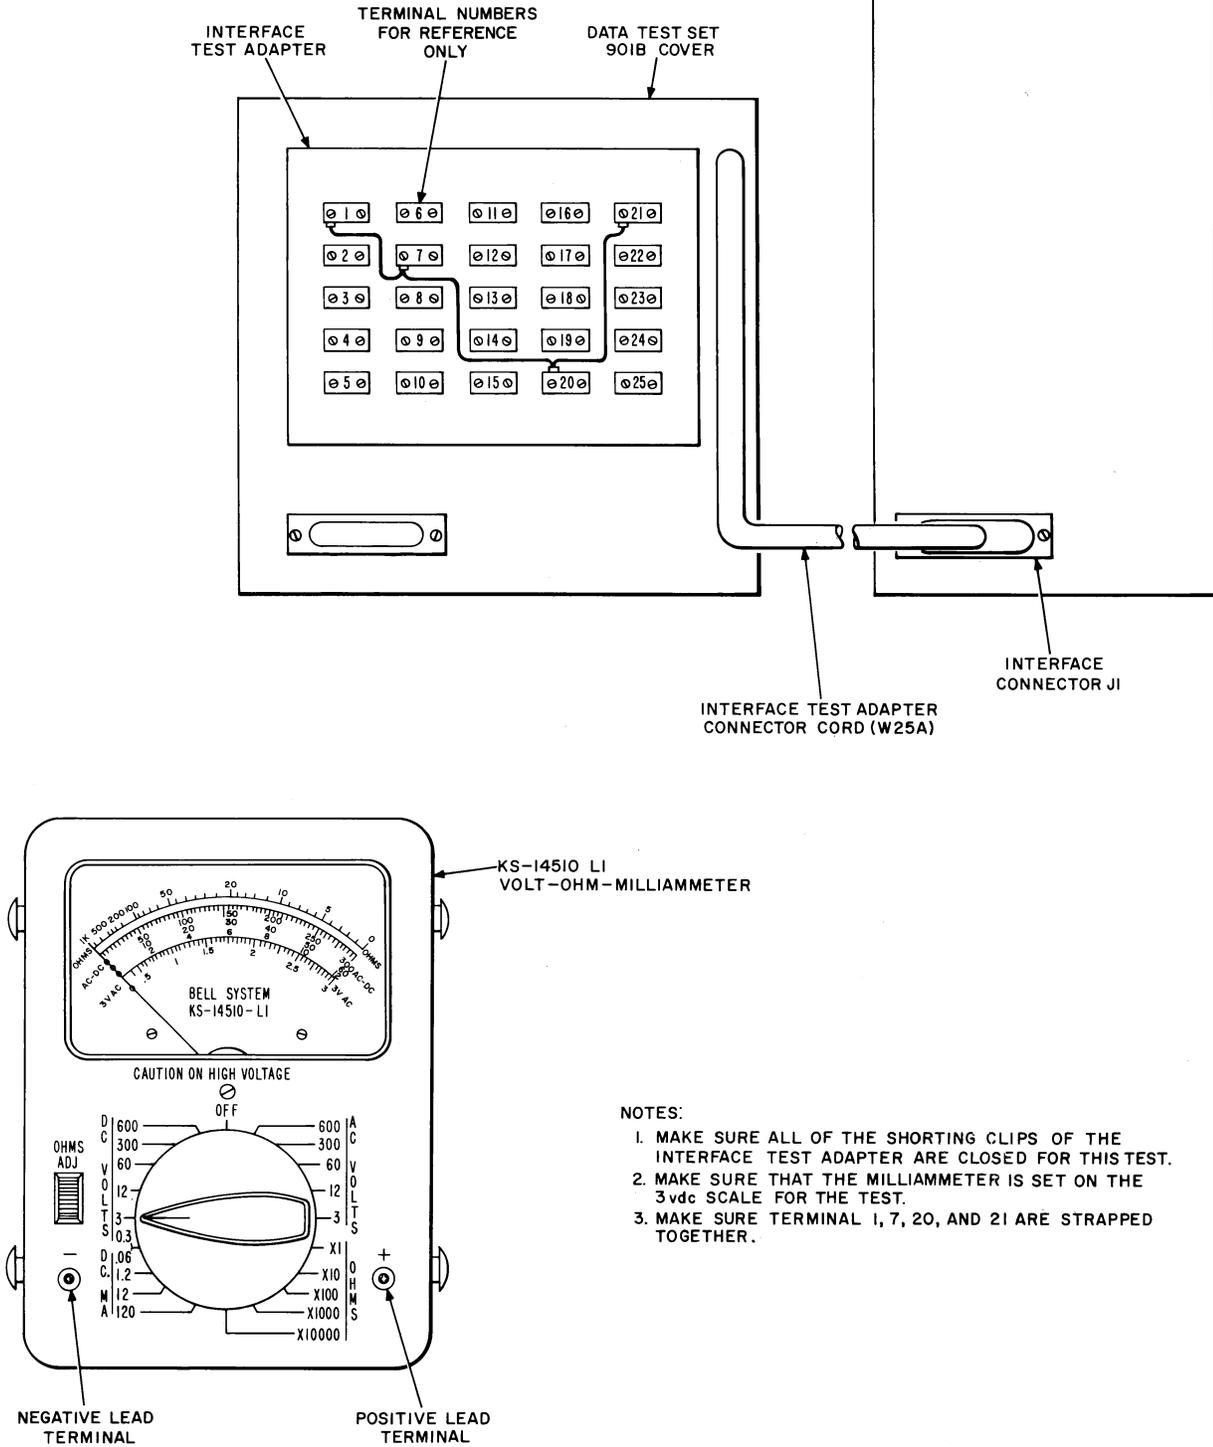

Fig. 8—Data Set 604B-Type Test Arrangement
**3.08** The following equipment is required for this test in addition to the receiver, and must be arranged as shown in Fig. 8.
**3.16** The following equipment is required for this test, in addition to the receiver, and must be arranged as shown in Fig. 8: